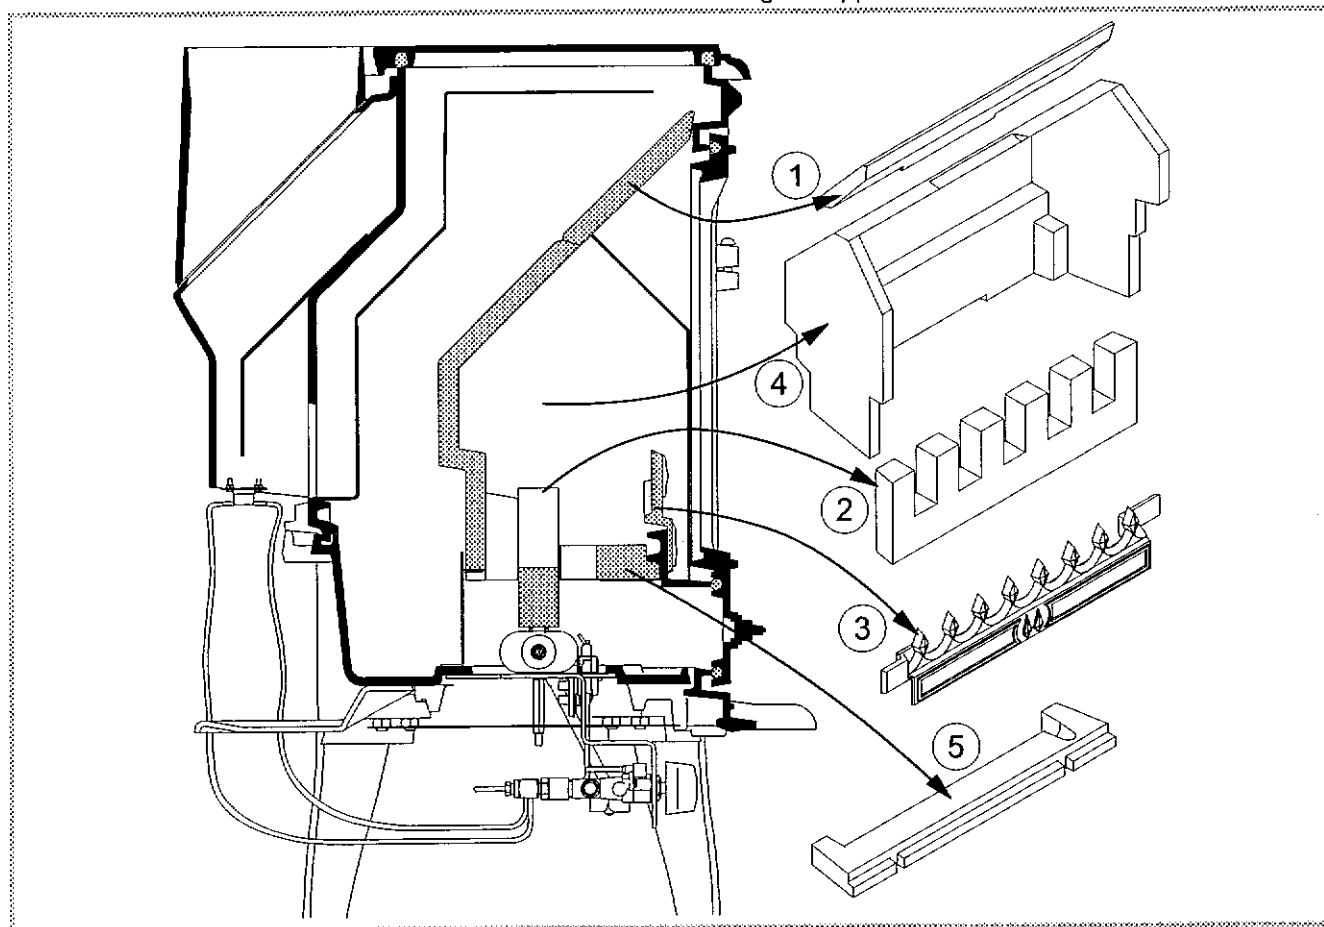

Figure 11 - Removal of the refractory elements
- Remove the coals and baffles (fig. 8 and fig. 11).
- Put into position the front element (rep. 3, fig. 11).
- Put temporarily the main element in the back on the hearth (1).
- Put the main element onto its support (4). Check that the main element sits close to the support stops.
- Put the central element onto the burner (5).
- Put into position the top element (6).